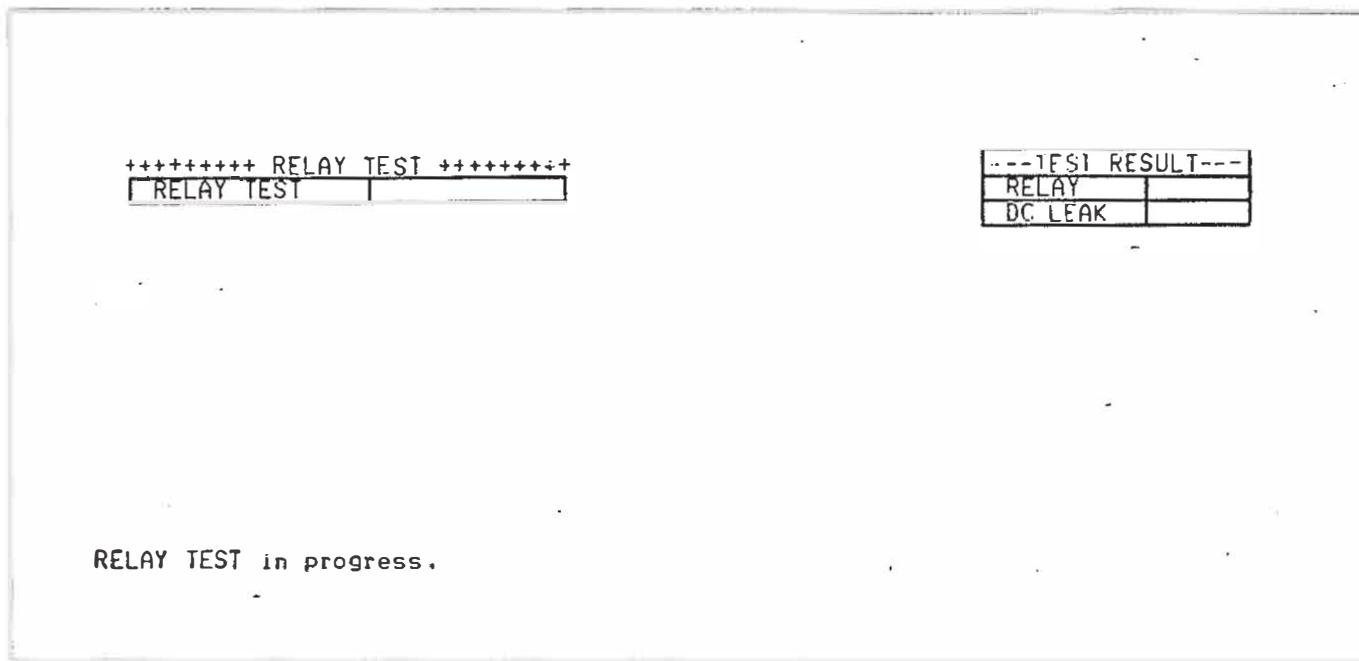

Figure 4-3. Relay Test Display
- (2) Press softkey **[K5]** (RELAY). The Relay Test will begin immediately. the computer's screen will be as shown in Figure 4-3. If no errors are detected, all relays are operating correctly. The test takes about 1.5 minutes.